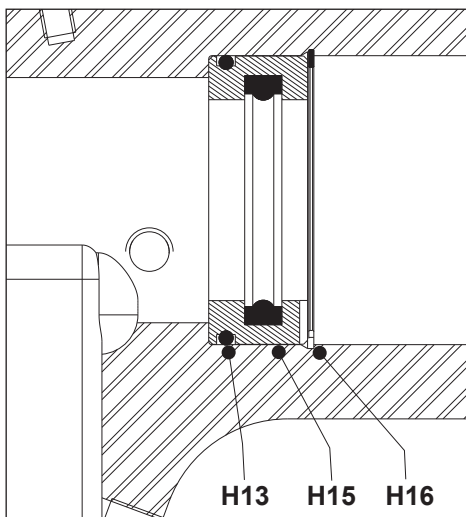

Fig. 24
**NOTICE** In the following step, be certain that side of bushing with O-ring (H13) is inserted first. Refer to Fig. 24 for assembled view.